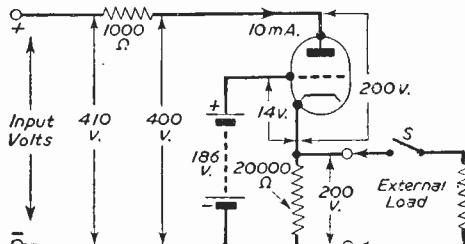
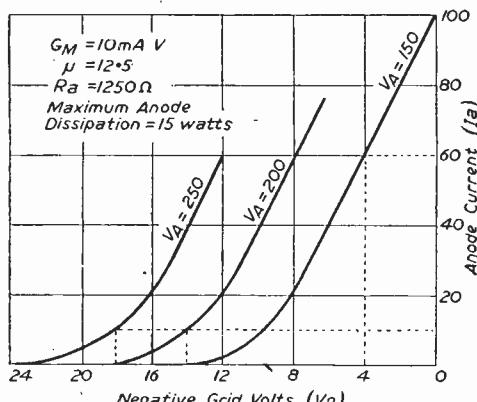

Fig. 2.—A cathode-follower stage.
Fig. 1.—Characteristics of a heavy-duty triode valve.
as the article goes on. The diagram Fig. 1, shows a set of characteristics of a heavy-duty triode having the following constants: (1) anode dissipation maximum 15 watts; (2) $g_m = 10 \text{ mA/V}$; (3) $\mu = 12.5$; (4) $R_a = 1,250 \Omega$. The curves, as can be seen, are anode current against grid volts for three values of anode volts. The circuit Fig. 2, shows a cathode-follower stage being fed with H.T. from a generator or power supply having an internal resistance of $1,000 \Omega$, and an output